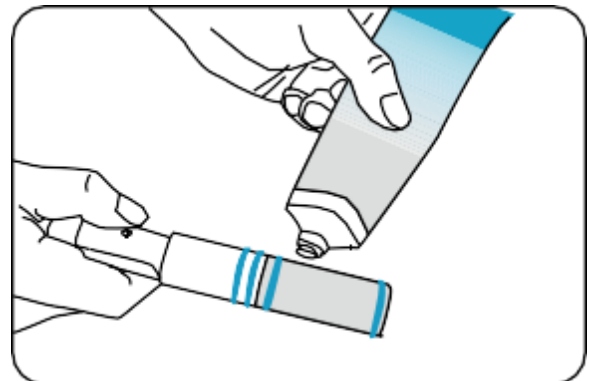

Figure 24
4. Apply food grade lubricant to the O-ring inserted into the draw handle. (Figure 24)